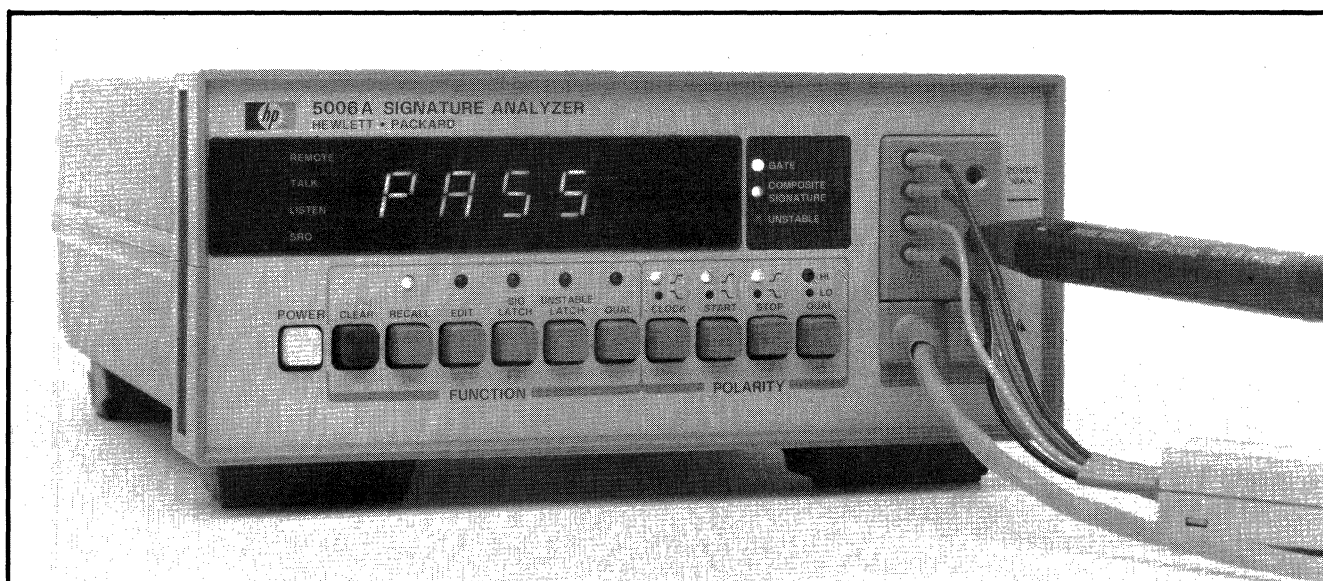

Figure 4-1. SELF-TEST Verification Setup
- c. Connect the START, STOP, CLOCK, and GND Timing Pod inputs to corresponding POD test connectors on the front panel. See *Figure 4-1*.